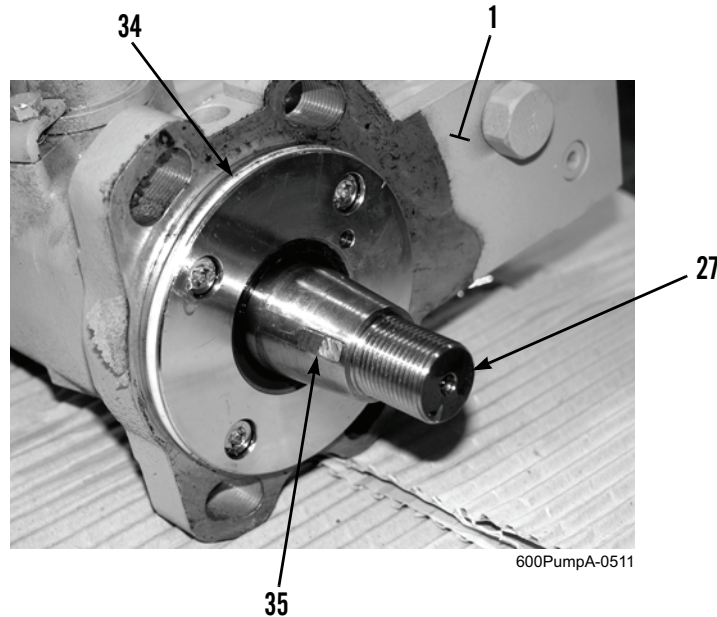

Figure 14. Fuel Injection Pump O-Ring and Woodruff Key.
1. Lightly coat new O-ring (Figure 14, Item 34) with clean fuel and install in groove of fuel injection pump (Figure 14, Item 1).
2. Install Woodruff key (Figure 14, Item 35) in fuel injection pump shaft (Figure 14, Item 27).